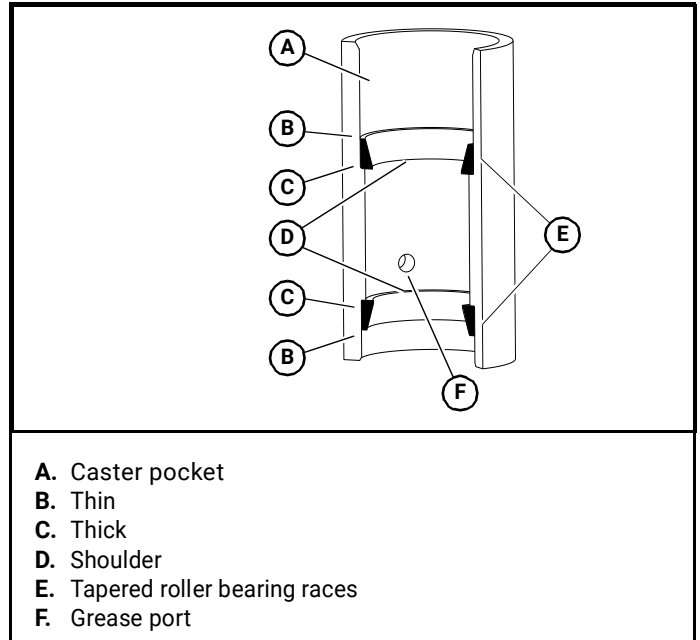

Figure 4-22
- Make sure the bearings outer race is correctly aligned before pressing the outer race into the fully-seated position against the caster pocket shoulder. Figure 4-22